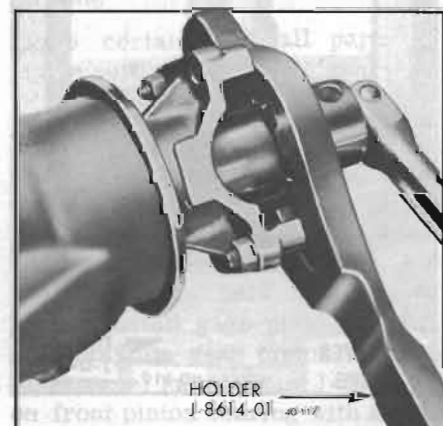

Figure 40-104—Removing Pinion Nut
2. Install Holder J-8614-01 on pinion flange by using two 5/16-18 x 2" bolts with flat washers. Remove pinion nut and washer. See Figure 40-104.